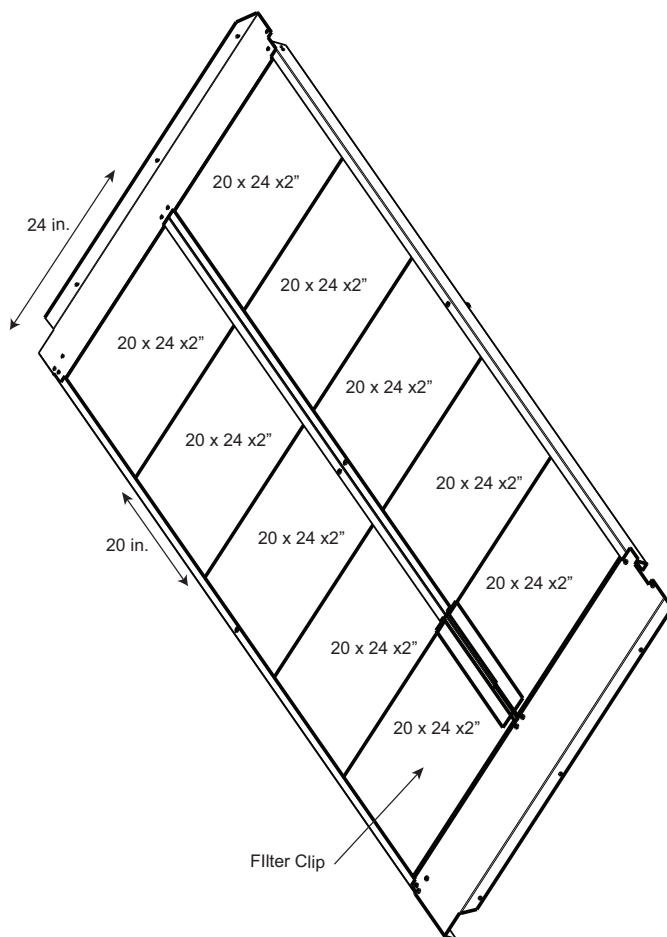
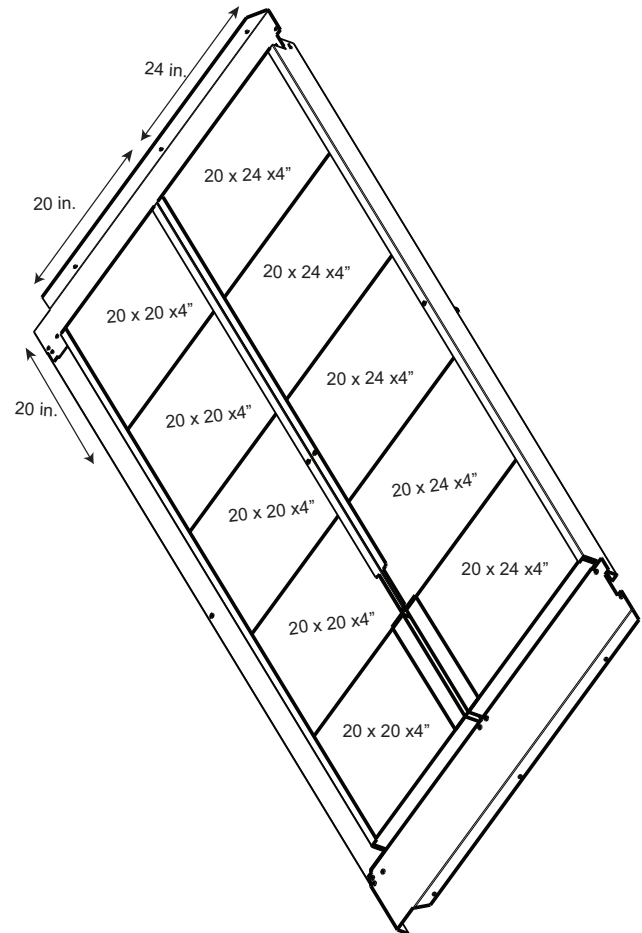

Fig. 9 — Filter Clip and 2 in. Filter Orientation
Fig. 10 — 4 in. Filter Orientation
2. Slide the black filter clip outward to remove it from the filter rack. See Fig. 9 for 2 in. filter clip locations and filter rack example.
8. To insert new filters, start with the bottom row of filters. Refer to Fig. 9 for 2 in. filter orientation and dimensions. Refer to Fig. 10 for 4 in. filter orientation in the filter rack.